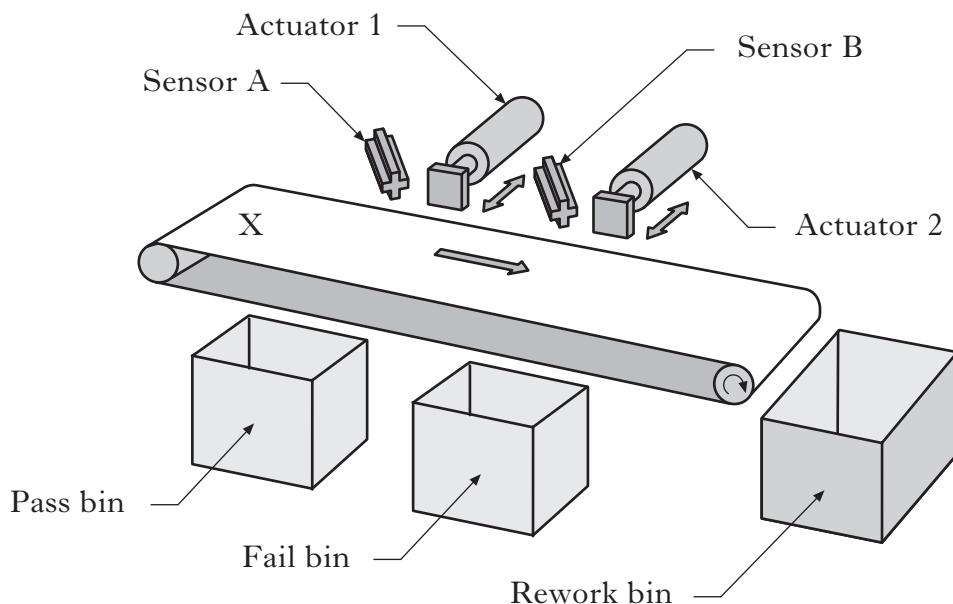

Figure Q6
6. Figure Q6 illustrates a component sorting system.